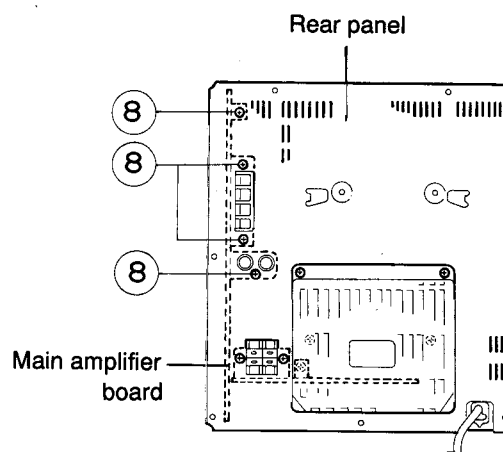

Fig. 5-15
5. Remove the four screws ⑧ fastening the main amplifier board to the rear panel. (See Fig. 5-15)